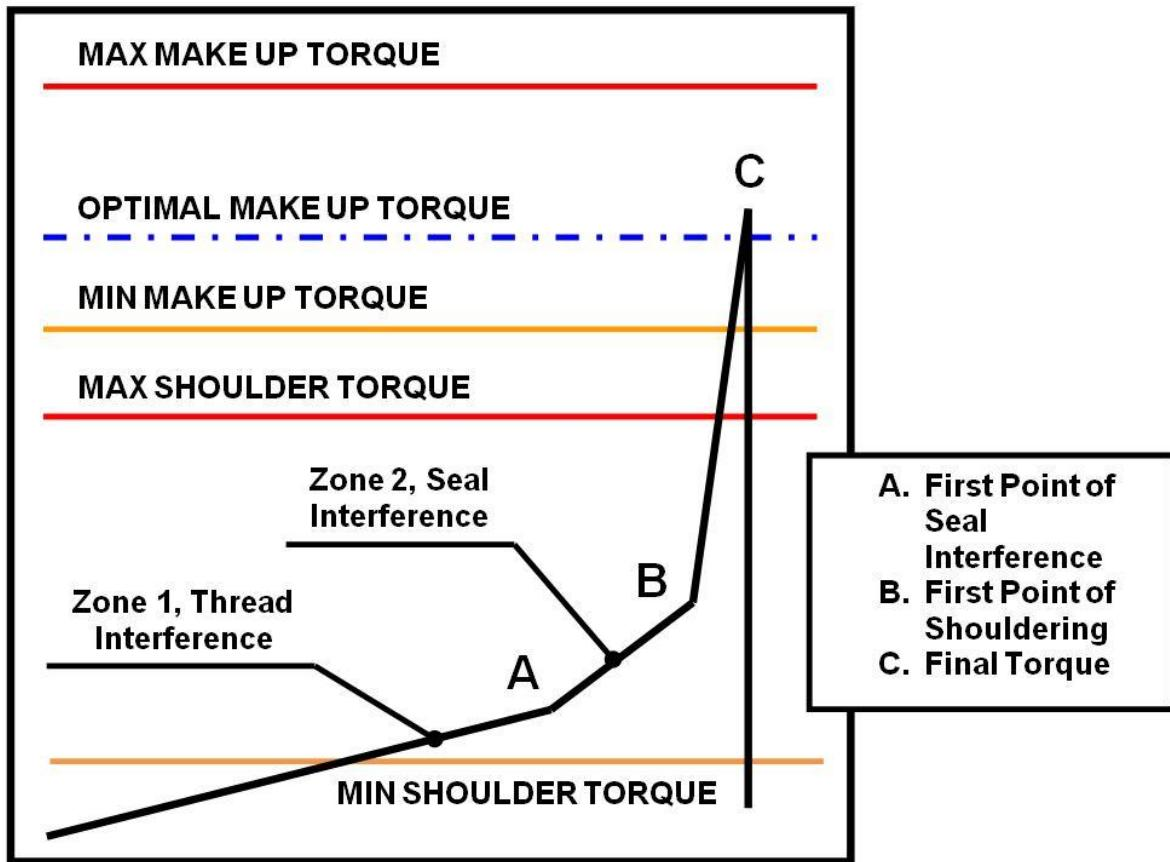

Figure A.1 – Typical Torque-Turn Plot
- Figure A.1 graphically illustrates a typical torque-turn plot.